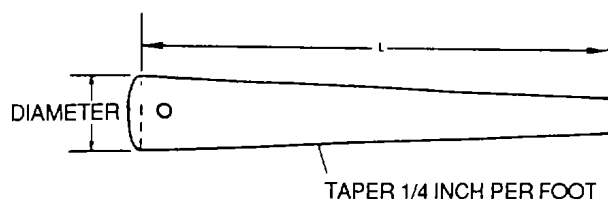

Figure 2-47. Plain Taper Pin
(1) Plain taper pins. Plain taper pins, MS24692, as shown in figure 2-47, are drilled at the large end and are usually safetied with lockwire.